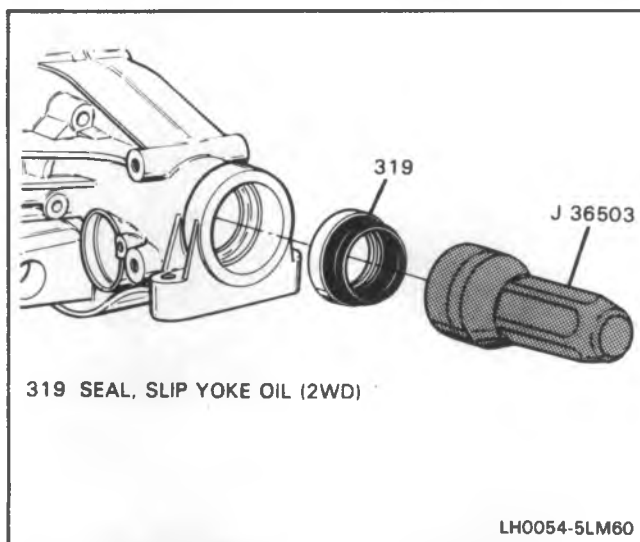

Figure 53 2WD Slip Yoke Oil Seal Install
- Bolts (306) to 22 N·m (16 lb. ft.).
4. Two dowel pins (321).
5. Slip yoke oil seal (319), using J 36503 (Figure 53).
6. Plug (322).